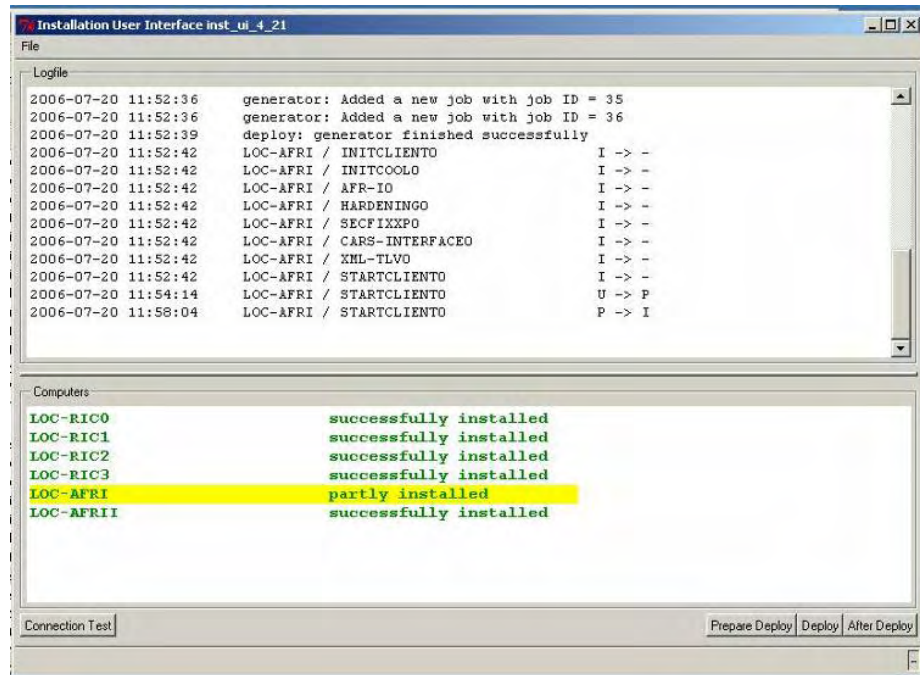

Figure 1-263. Deploy finished
31. Wait until the status of the “STARTCLIENT” component changes from “P” to “I” in the “Logfile” section of the window. The status of the system with the wrong configuration remains in status “partly installed” (Figure 1-263).